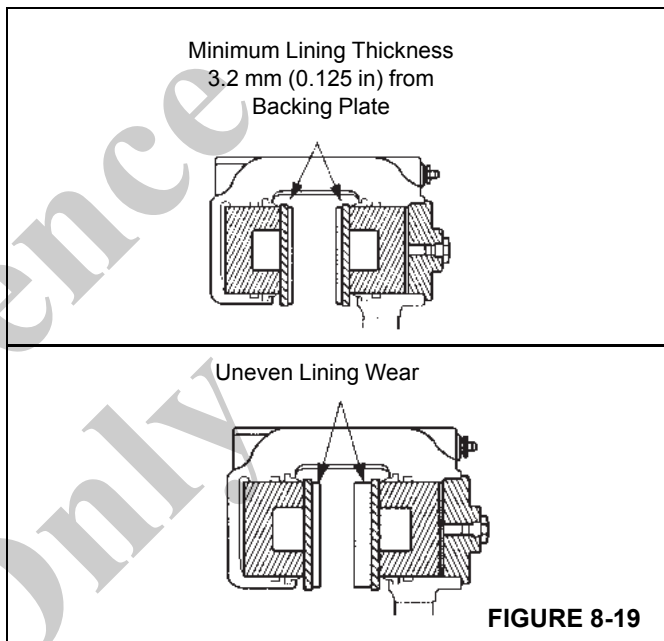

FIGURE 8-19
- Lining Wear. Replace the linings when the thickness of the lining is less than 3.2 mm (0.125 in) from the back plate (Figure 8-19).
- Lining Wear Not Even. Replace the linings if the thickness of the two linings is significantly different. Check the pistons for correct operation. Replace the piston and/or housing if a piston is cocked in the bore. Check that the disc surface is flat and parallel to the linings (Figure 8-19).